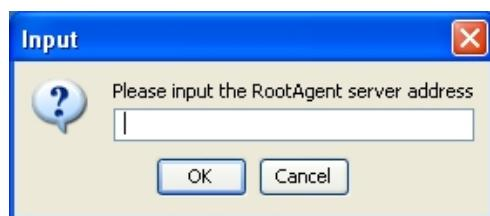

Figure 14- 2: Input Root Agent IP
**Step 2.** Add one (1) **Root Agent** by entering the IP address for the Root Agent. (See *Figure 14- 2: Input Root Agent IP*)